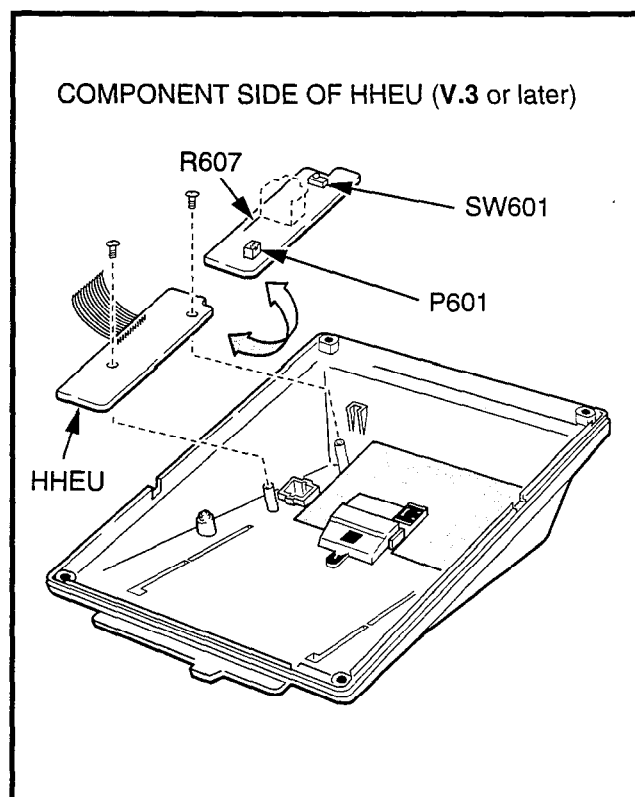

FIGURE 4-48
- 3) Set the **SW601** switch on the HHEU PCB to the **HEADSET** position (Figure 4-48).
- 4) If the headset receiver is not to receive OCA caller voice announcements, cut both sides of the **R607** resistor on the HHEU PCB (Figure 4-48), then remove the resistor.
- 5) Position the HHEU PCB on the standoffs inside the base (Figure 4-48), and secure with the two screws provided.